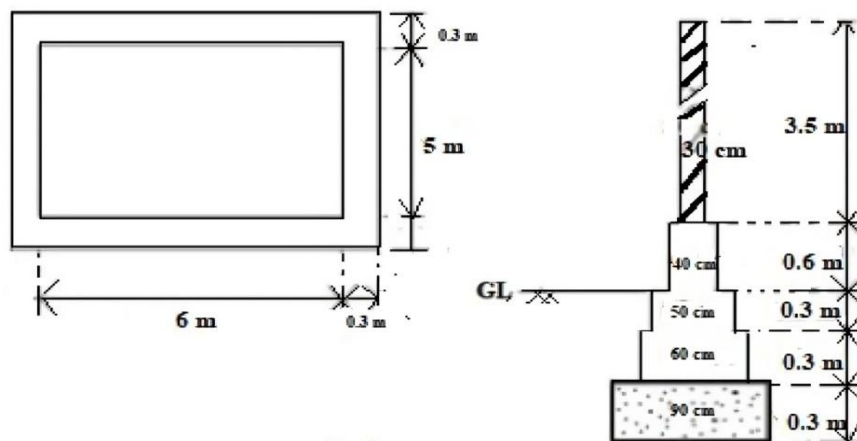

Fig 1
- B) Fig 1. Shows the plan of superstructure wall (0.3 m) of a single room building of 6m x 5m, and sections represent the cross-sections of the walls with foundation. Estimate (Long wall and short wall method) the quantities of 1. Earthwork in excavation in foundation. (2 Marks). 2. Concrete in foundation. (2 Marks). 3. Brickwork in superstructure. (2 Marks). **CO1 6**